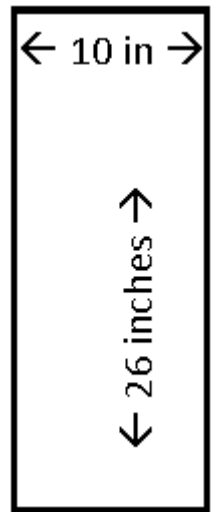

Figure 2
- Fold them in half to form a rectangle 26 inches tall x 10 inches wide. (Figure 2)